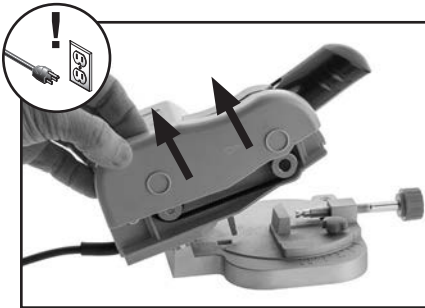

Figure 14. Removing timing belt cover.
2. Pull up on belt cover to remove it (see **Figure 14**).